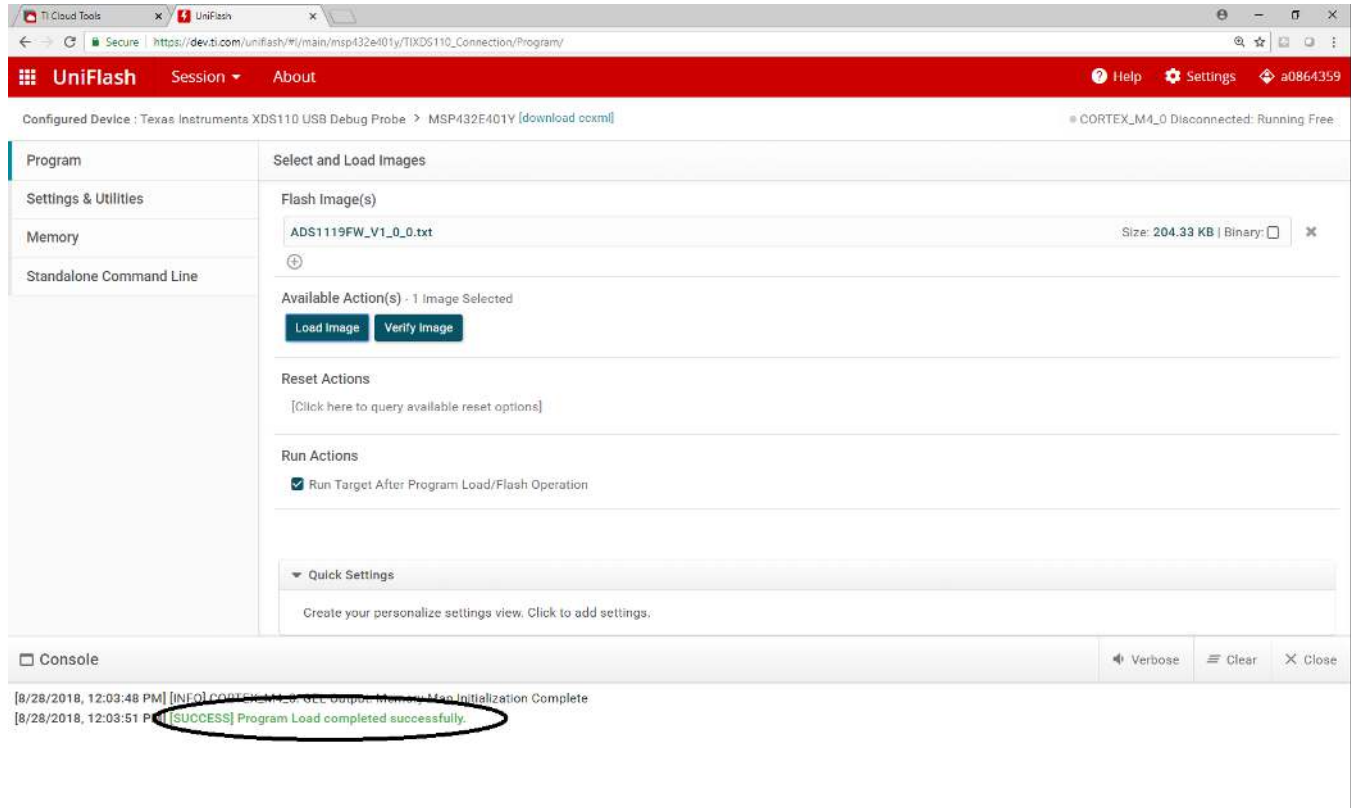

Figure 15. UniFlash: Successful Download
- The console at the bottom of the UniFlash window shows the result of the loading process. Figure 15 shows the correct response of *[SUCCESS] Program Load completed successfully*. If this response is not shown or an error message is displayed try the *Load Image* button again. You may have to unplug and plug the USB cable to the LaunchPad™ again to reset communication.